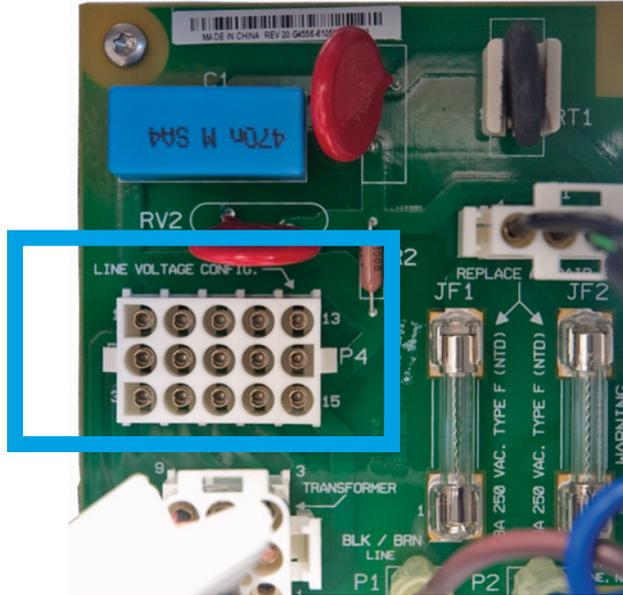

Figure 1 Close up of AC board
- 3 Install the configuration plug into the AC board (connector P4). See Figure 1.